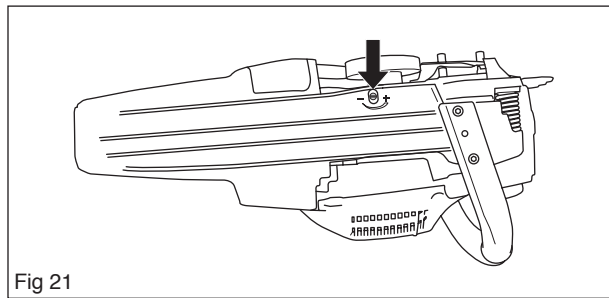

Fig 21
- 3 Adjust the oil pump. See Figure 21.